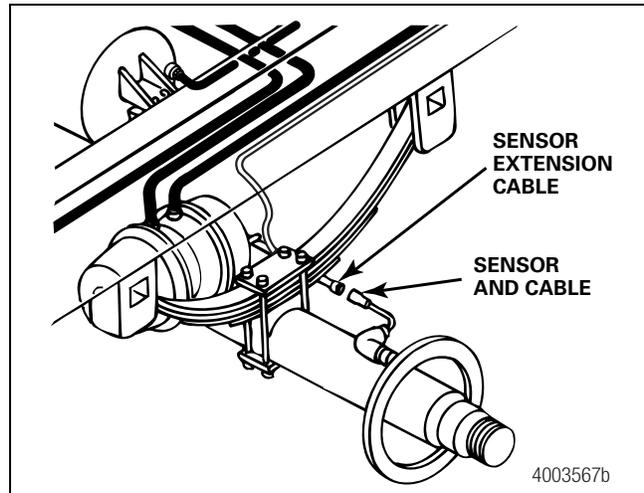

Figure 5
2. Connect the sensor and cables on the prepped axles to the sensor extension cables. Figure 5.
3. Route the sensor cable along the back side of the trailer axle to the ECU/single modulator valve assembly. Route the cable with the brake hose. Figure 5.